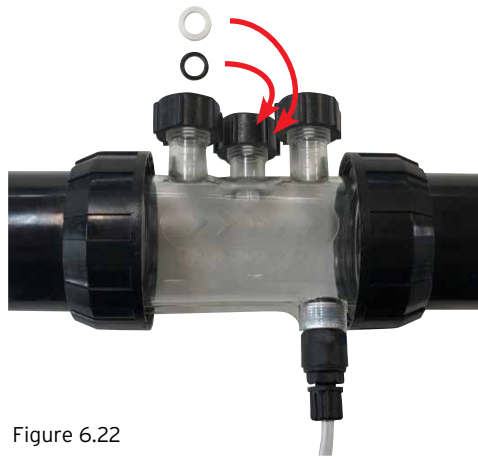

Figure 6.22
- On the probe and injection housing, under each of the 3 x probe locking nuts, is an o-ring and washer (refer Figure 6.22). Remove the second probe locking nut on the housing (where it's marked ORP)